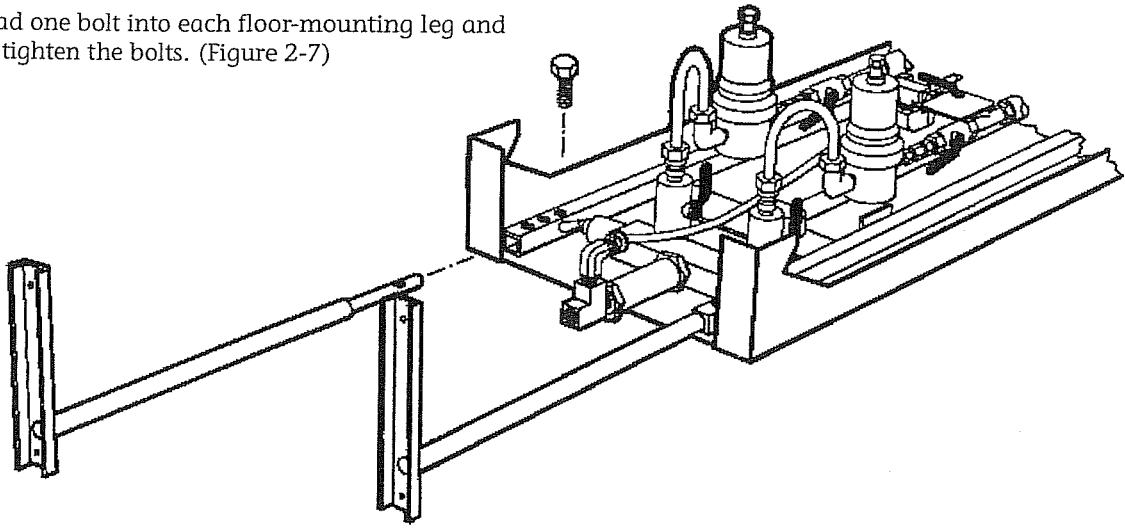

Figure 2-7
- Slide one floor-mounting leg into each frame end at the bottom of the manifold. (Figure 2-7)
- Thread one bolt into each floor-mounting leg and then tighten the bolts. (Figure 2-7)